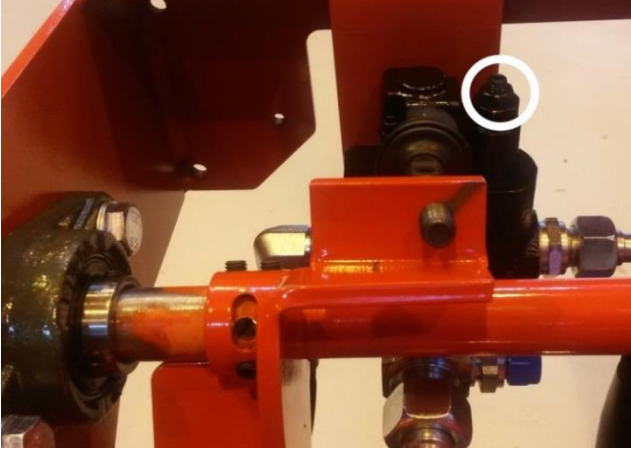

Figure 43
1. Relief valve of the saw motor (200 bars) Figure 43